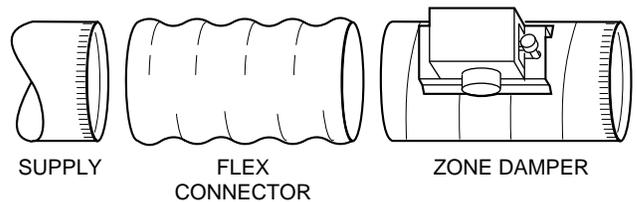

Fig. 8—Round Metal Ductwork A92477
2. Slip end of zone damper over end of ductwork. Use self-tapping sheet metal screw to secure. (See Fig. 8.)